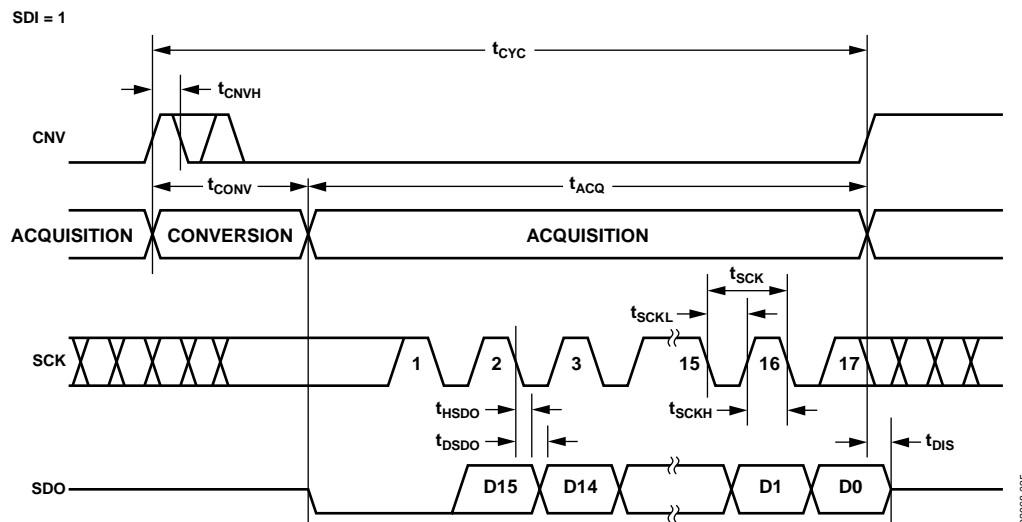
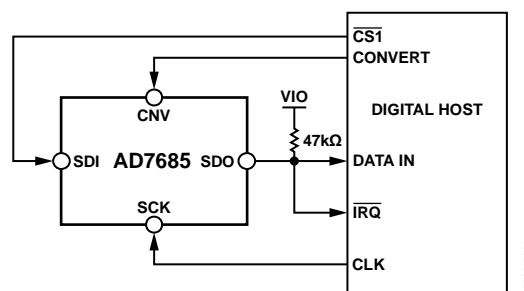
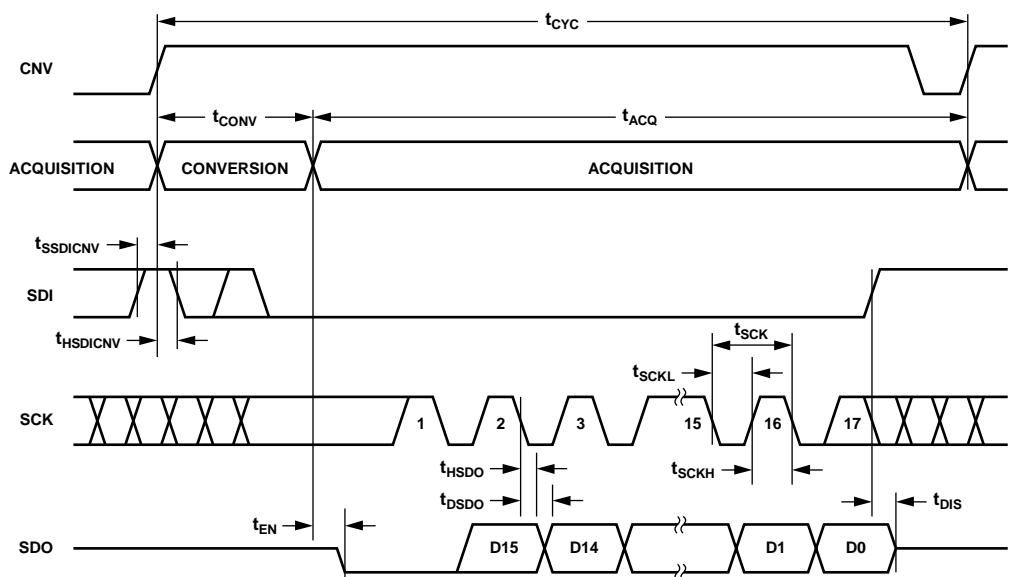

Figure 37.  $\overline{\text{CS}}$  Mode 3-Wire with *BUSY* Indicator Serial Interface Timing (SDI High)
Figure 40.  $\overline{CS}$  Mode 4-Wire with BUSY Indicator Connection Diagram
Figure 41.  $\overline{CS}$  Mode 4-Wire with BUSY Indicator Serial Interface Timing
- In the  $\overline{CS}$  mode, if CNV or SDI is low when the ADC conversion ends (see Figure 37 and Figure 41).
The connection diagram is shown in Figure 40, and the corresponding timing is given in Figure 41.